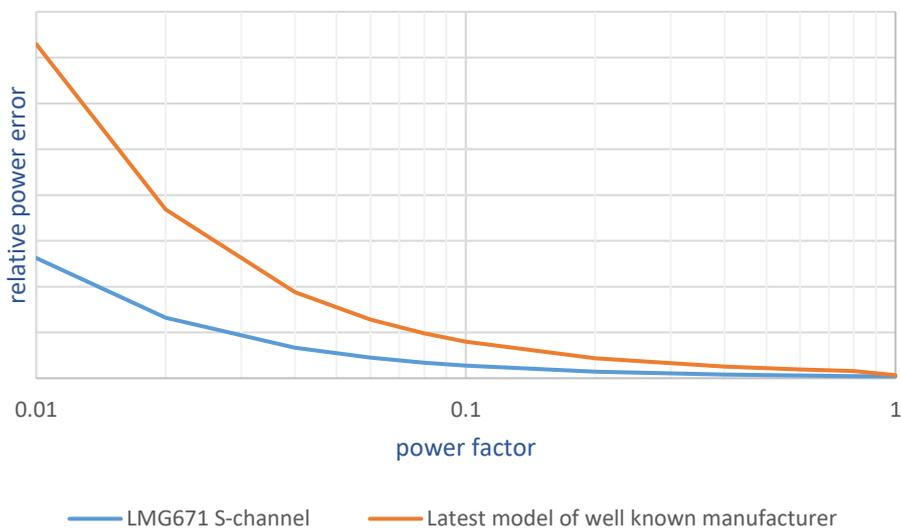

Figure 3: Power accuracy vs. power factor / 230Vrms, 2.5Arms, 50Hz
*Most of the manufacturers provide “superior” accuracy specifications assuming a power factor equal to one, while choosing to add PF-relevant fine print when it comes to applications with real-life power factors <1. This is a common practice and therefore the concerned user should be aware of it. Figure 3 shows the increasing power measurement error by considering the power factor influence.*